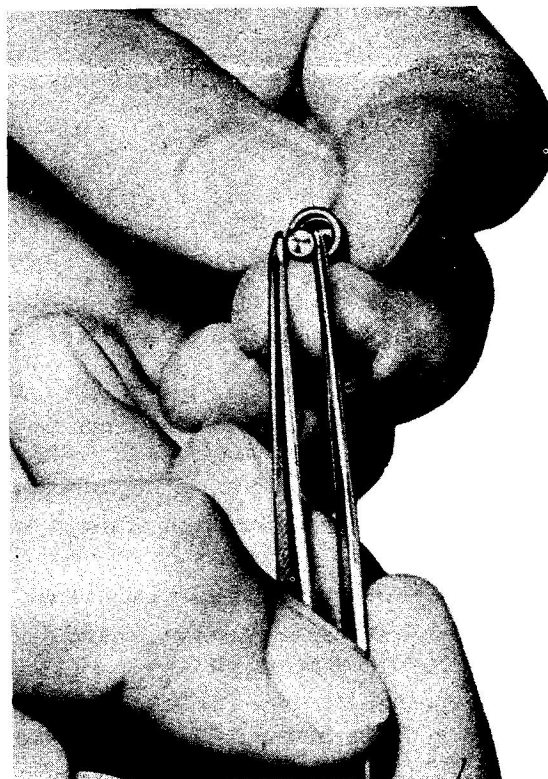

Figure 29 — Replace Jewel in Cap
(3) Place the jewel into the jewel post cap (figure 29) and then screw the cap onto the jewel post, centering the jewel as the cap is screwed on. Be sure the cap fits tightly. The bottom of the shoulder of the jewel post when screwed all the way down.
(4) Test the jewel for "spring" with a sewing needle. It must be absolutely free from sticking in any position.